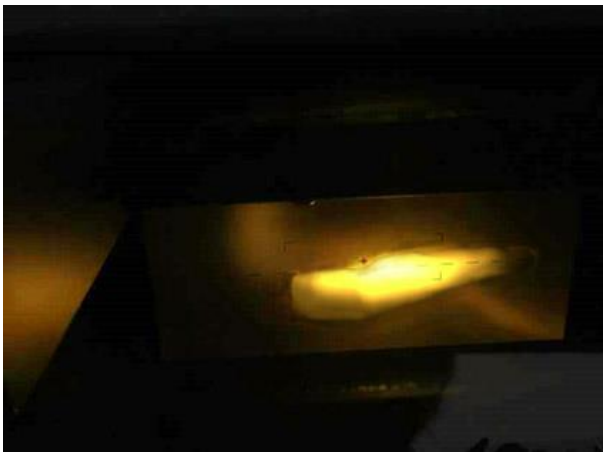
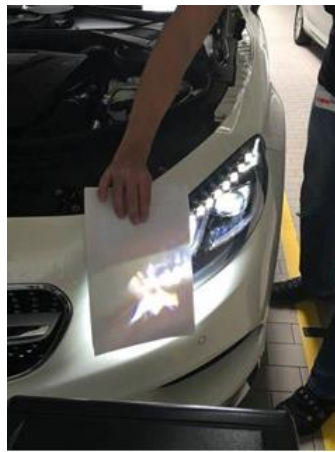

Figure 8
Figure 9
- To better see the spot (Figure 8) in the headlamp aimer, cover the headlamp with a sheet of paper (Figure 9).